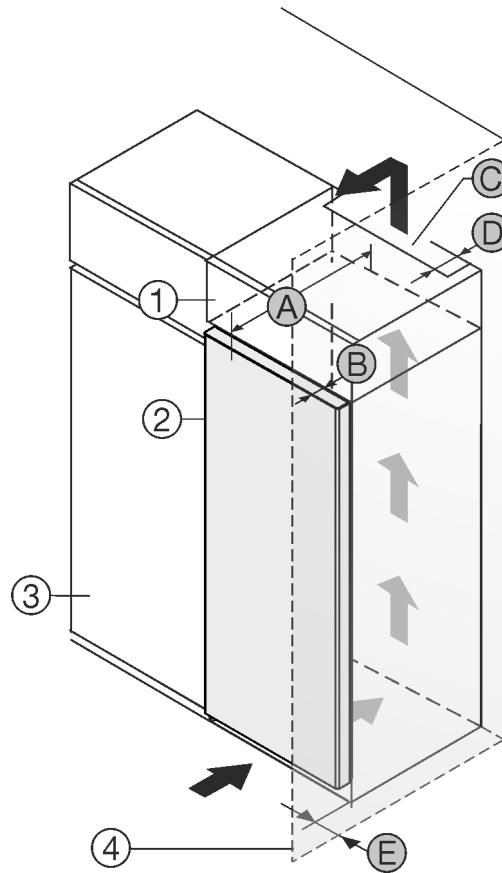

Fig. 1
- (1) Top cupboard \*
- (2) Appliance \*
- (3) Kitchen cabinet \*
- (4) Wall \*
- (A) Appliance depth \*
- (B) Door depth \*
- (C) Ventilation cross-section \*
- (D) Distance to the rear of the appliance \*
- (E) Distance to the side of the appliance \*
You can place the appliance directly beside the kitchen cabinet Fig. 1 (3)\*.
There must be a ventilation shaft at the depth Fig. 1 (D) of the back of the top cupboard over the entire width of the top cupboard.\*
The cross section of the ventilation gap Fig. 1 (C) must be maintained below the ceiling.\*
If the appliance is set up with the hinges next to a wall Fig. 1 (4), the distance between the appliance and the wall must be at least 13 mm.\*
If the appliance is set up with the hinges next to a wall Fig. 1 (4), the distance between the appliance and the wall must be at least 20 mm.\*
In order to be able to fully open the door, the appliance must protrude by the depth of the door Fig. 1 (B) from the front of the kitchen cabinet. Regardless of the depth of the kitchen cabinets Fig. 1 (3) and use of wall spaces, the appliance can protrude further.\*